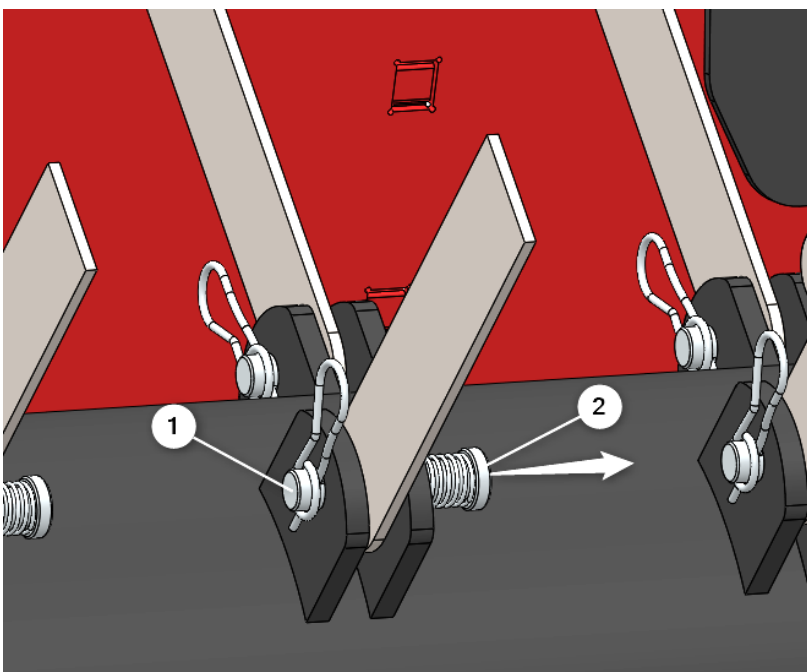

Fig. 11
6. Remove the clip (1), support the blade and slide out the pin (2). The blade can now be taken out (Fig. 11).